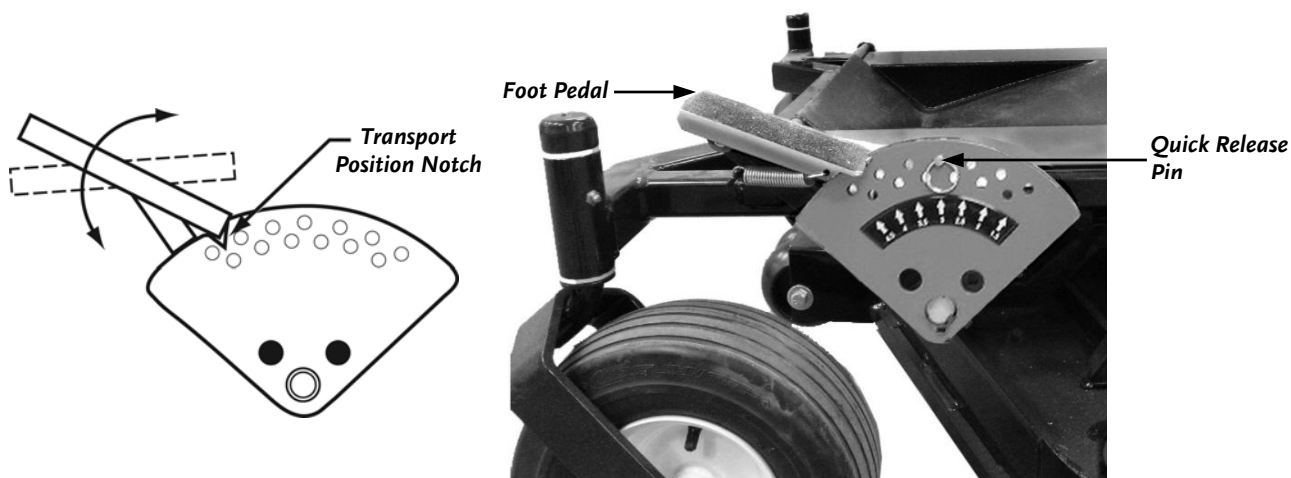

Figure 20
11. Push the Foot Pedal forward to lift the Deck Height Adjuster as high as possible and pin it in place with the Quick Release Pin (**Figure 20**).
The adjustment of the Deck Height is by means of a foot pedal (**Figure 20**) located at the left front of the machine.